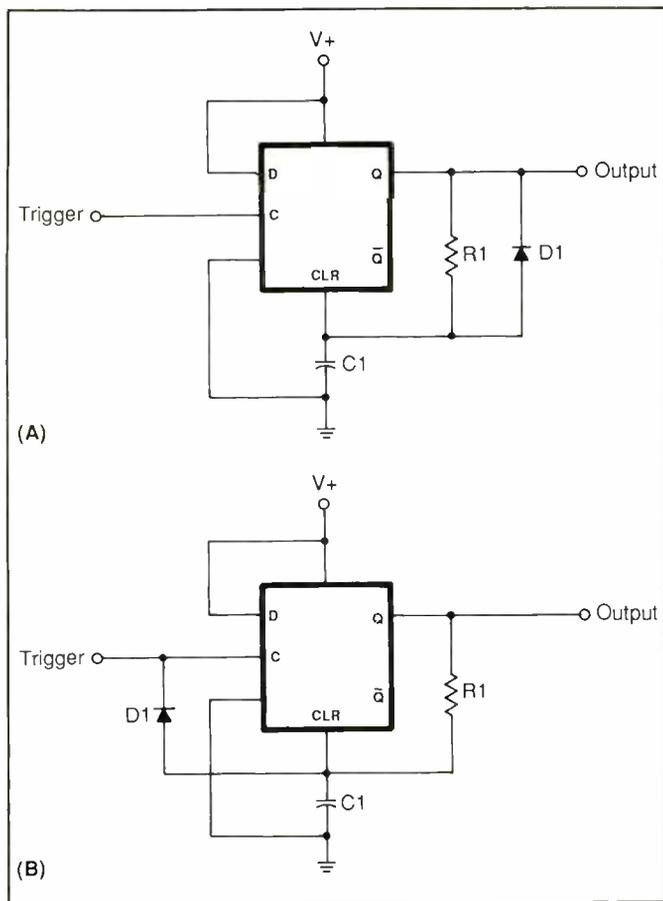

Fig. 5. Two versions of monostable multivibrator built around 4013 CMOS D-type flip-flop: (A) non-retriggerable and (B) retriggerable.
Two versions of the monostable multivibrator built around the 4013 D-type flip-flop are shown in Fig. 5. The rules of operation for the D-type flip-flop are as follows:
tor circuit shown schematically in Fig. 5(A) has its D input permanently tied to logic high by nature of it being connected to the $V+$ rail. When a trigger pulse forces clock input C high, the high on the D input is transferred to the Q output, making this output also high.
Shown in Fig. 5(B) is the retrigger-
able version of the Fig. 5(A) circuit. In this case, the discharge diode is connected from the CLR input of the D-type flip-flop to the trigger input. Retriggering occurs by bringing the trigger input to logic high and then back to logic low.